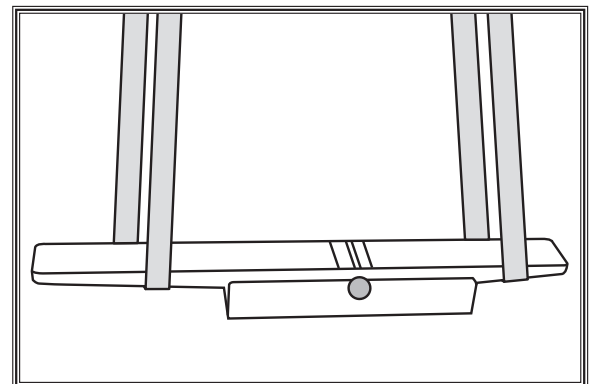

Figure 11. Lifting slings properly positioned.
6. If lifting table assembly with power lifting equipment, attach lifting slings to table assembly, as shown in **Figure 11**, and carefully place it on top of stand.